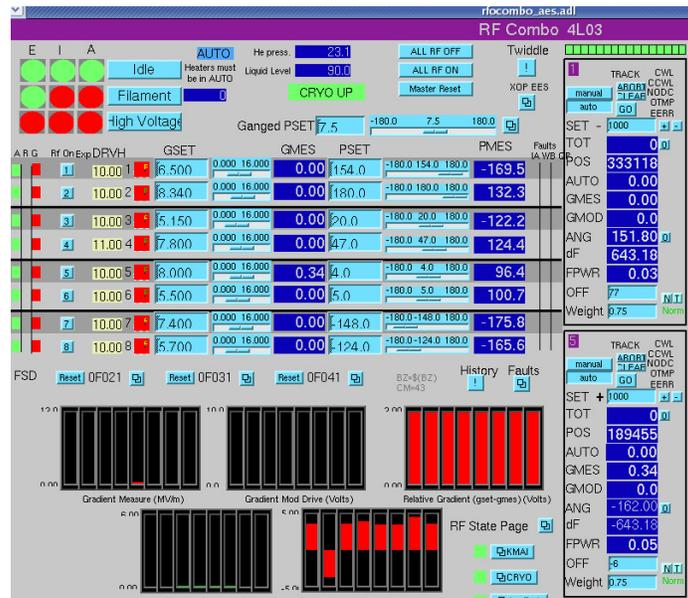

Figure 10-1: RF Zone 3
1. Open the *RF Combo 4L03* screen from **FEL Main Menu**⇒**RF**⇒**RF FEL Main Menu**⇒**Zone 3 Misc**⇒ 2nd blue button (Figure 10-1).